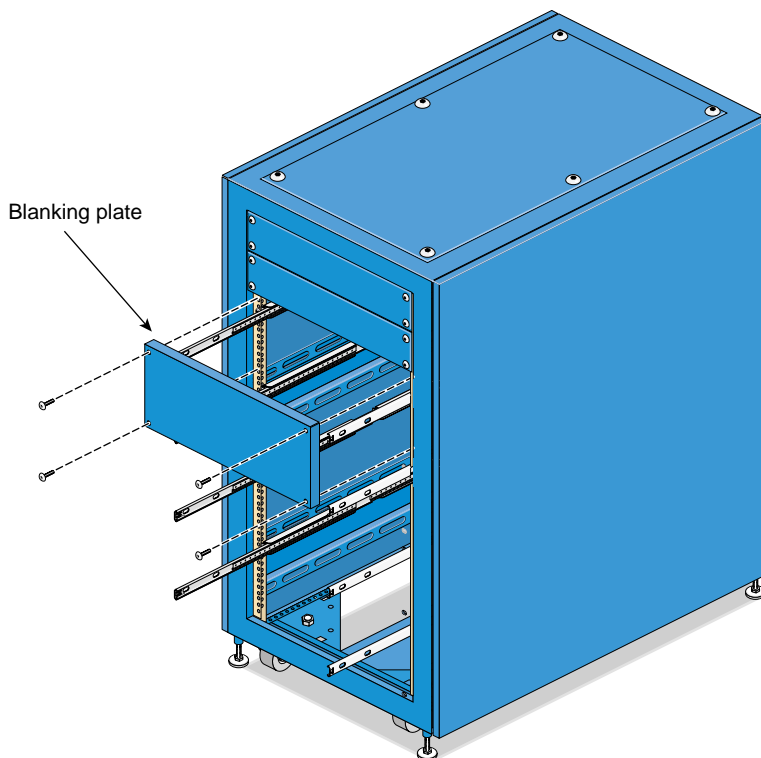

Figure 4-10 Installing Node Blanking Plate
5. If you are removing a node and not replacing it immediately, you can install a 4U node blanking plate in the rack; see Figure 4-10.